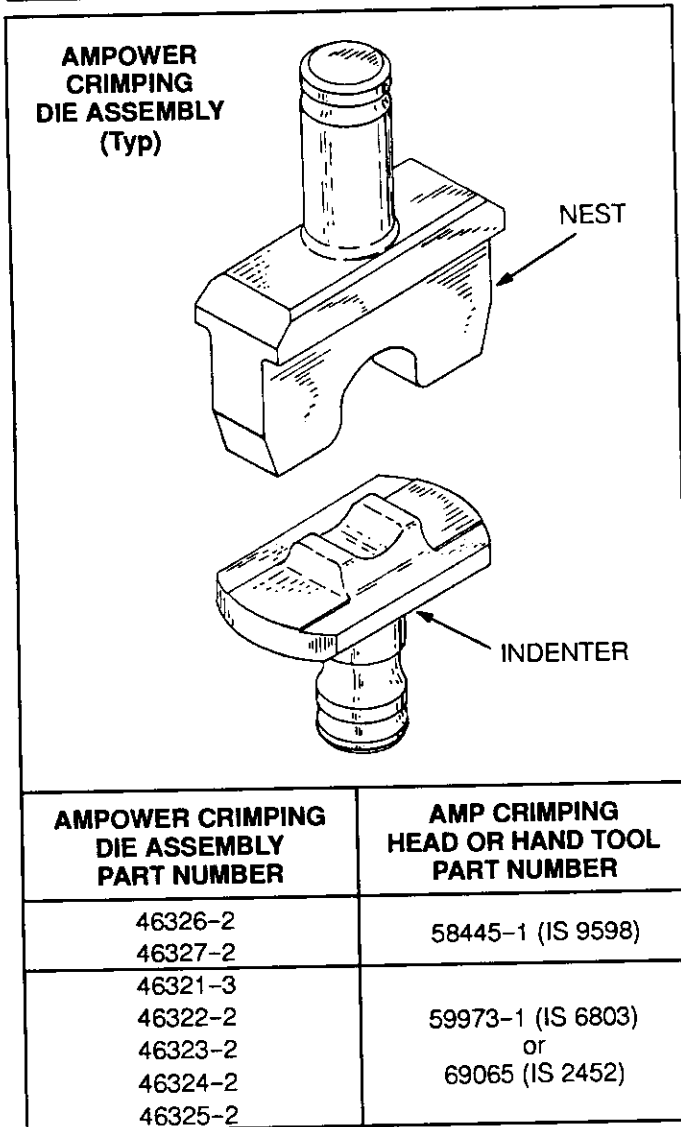
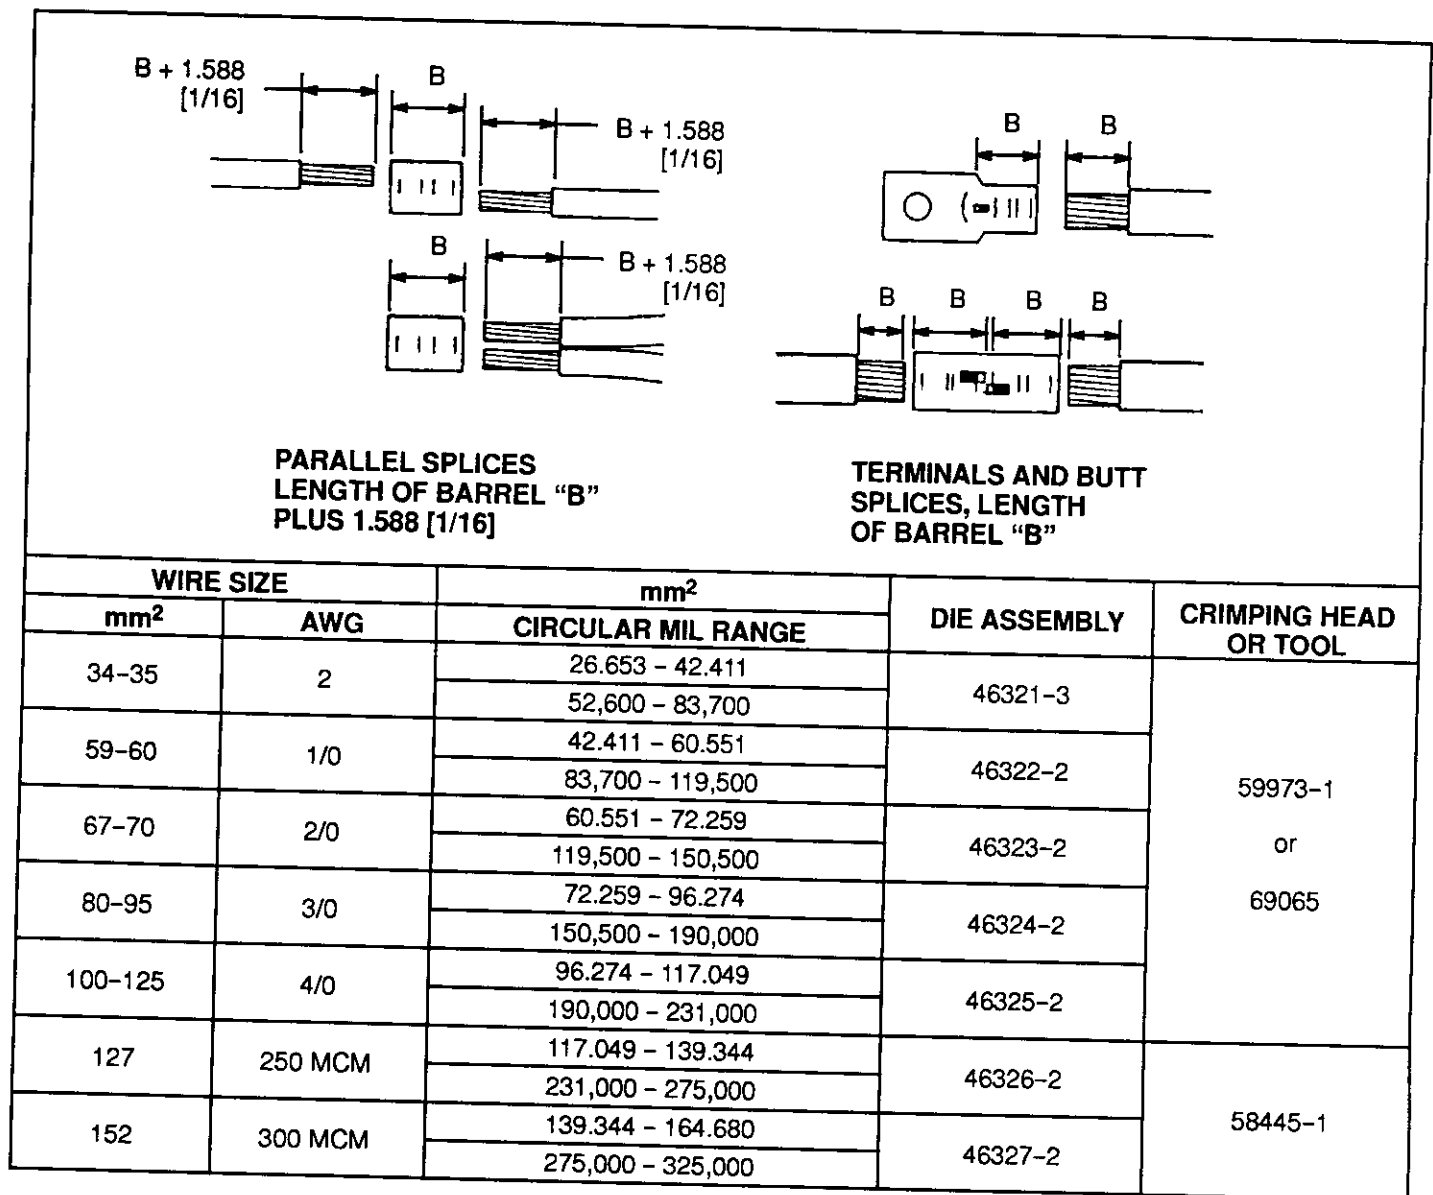

Fig. 1
Fig. 2
This instruction sheet (IS) covers application maintenance procedures for the AMPower Crimping Die Assemblies listed in Figure 1. The die assemblies are used to crimp AMPower Terminals and Splices onto solid or stranded copper wire of the sizes listed in Figure 2. Read these instructions, and all applicable references, before inserting any die assemblies and crimping any terminals or splices.
## 2. DESCRIPTION (Figure 1)
Refer to Figures 1 and 2 and determine the correct die assembly and crimping tool for the terminal or splice and wire size to be used in the application. Different procedures must be observed for the three crimping tools used with the die assemblies.
Obtain the correct wire, terminal or splice, die assembly, and crimping tool for your application. Strip wire insulation to the dimensions indicated in Figure 2, taking care not to nick or cut conductor(s), and proceed as follows: